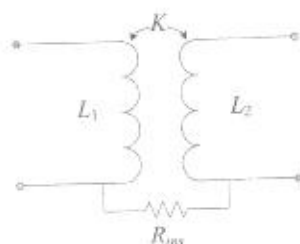

Fig. 4-a: Equivalent circuit of ideal transformer
- a- The equivalent circuit of ideal transformer is shown in Fig. 4-a. Three ideal single-phase transformers are used to construct three-phase transformer. The three-phase transformer is shown in Fig. 4-b. Write down *netlist* file with following requirements:
- Redraw the circuits shown in Fig. 4-a and Fig. 4-2, suggest a suitable reference node.